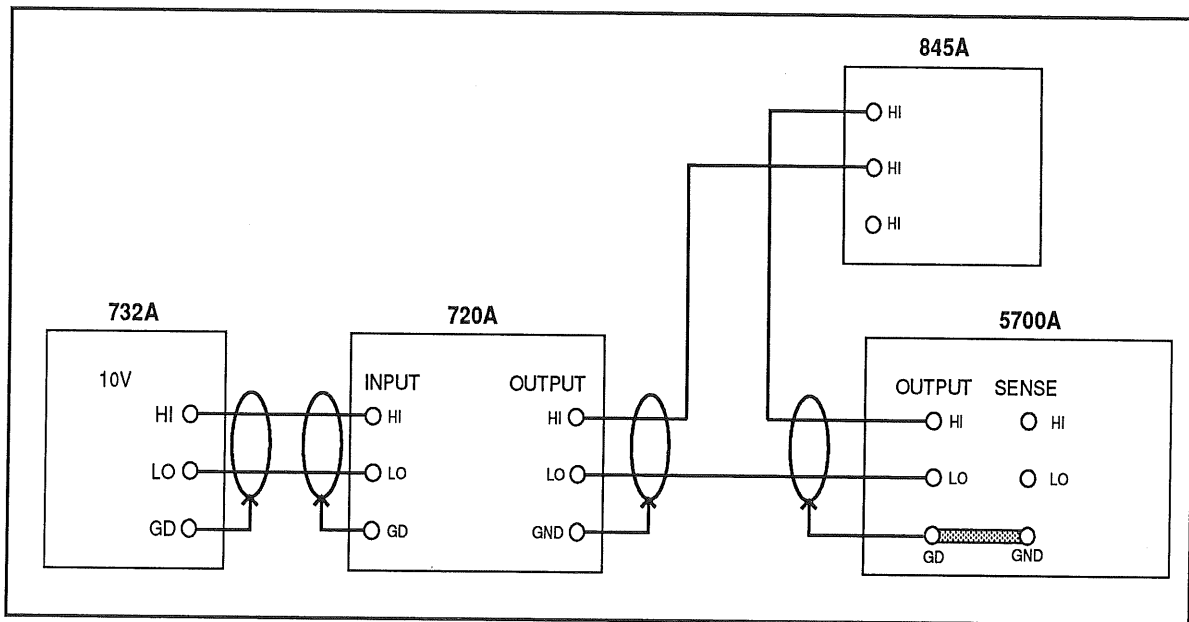

Figure 3-19. DC Voltage Linearity Test
1. Self calibrate the Kelvin-Varley (KV) divider as called for in its service manual.
2. Connect the equipment as shown in Figure 3-19.